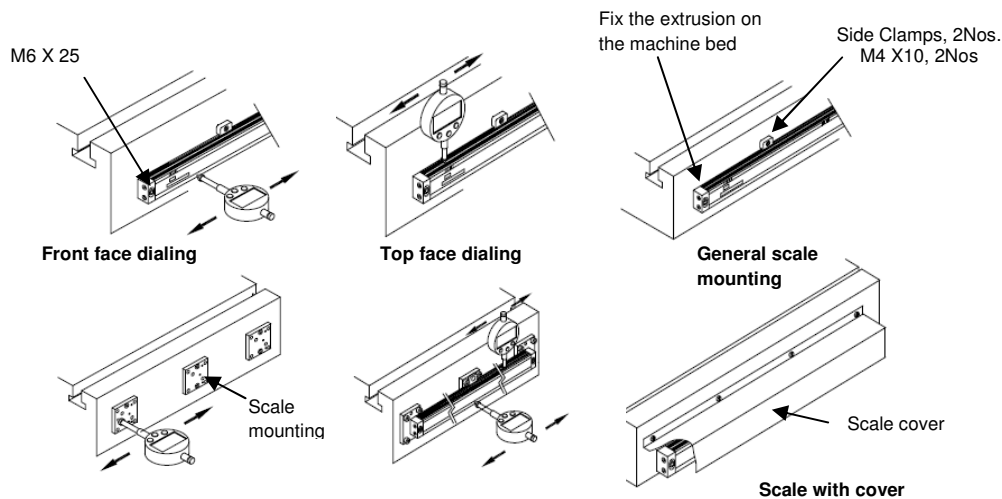

Figure 4
- ☞ Mounting brackets should be positioned at the two ends of the scale as shown in the Figure 4. The alignment of the blocks should be checked using dial indicator before mounting the scale. Use side clamps as indicated in Figure 4 at every 500mm.
- ☞ Ensure the supplied cover is properly mounted to protect the scale and reader head for the entire length to ensure the reliability and performance of the system. Refer Figure 4.